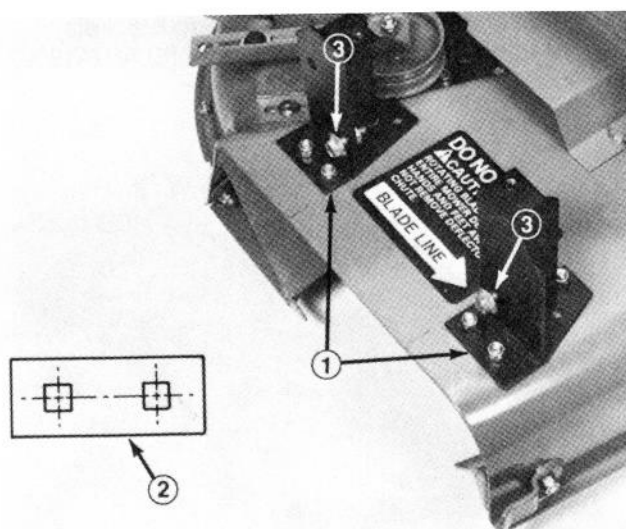

Figure 8
1. Position blower and mounting brackets onto cutting unit, aligning mounting holes with holes previously used for mounting grass deflector (Fig. 8). (Figure shown with blower removed)
2. Using blower brackets as templates, mark and drill remaining 3/8" dia. holes in deck (Fig. 8).
3. Remove (2) knobs and washers securing blower to mounting brackets and remove blower (Fig. 8).
4. Secure each bracket to deck with a bracket plate (Fig. 8, Inset) and (3) 5/16-18 x 5/8" carriage bolts and lock nuts. Position bracket plates between bolt heads and bottom, inside of deck.
6. Slide blower onto mounting bracket alignment studs (Fig. 8) while routing belt around blower pulley.
7. Secure blower to mounting brackets with (2) knobs and washers.